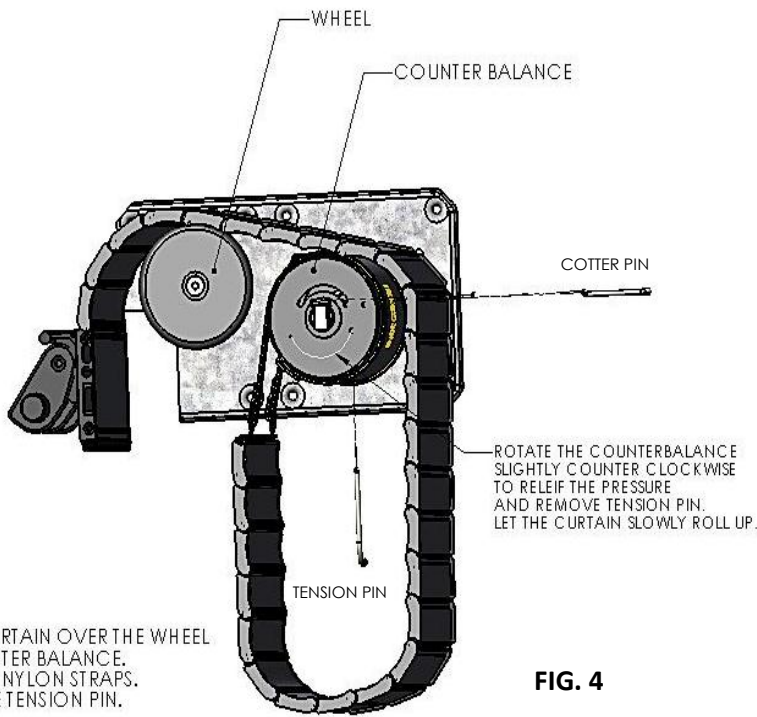

FIG. 4
3) Install Curtain (See FIG. 4)